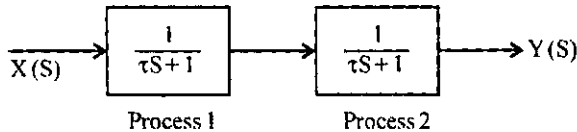

Fig. 5
- (b) Fig. 5 shows the block diagram of two non-interacting processes. Determine the unit step response of the overall process.